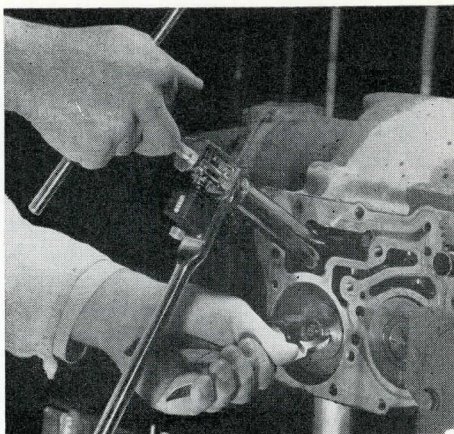
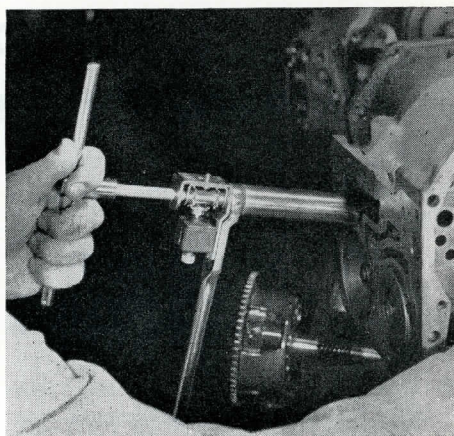

Figure 17
Figure 18
1. Rotate the reverse brake drum to center it in the reverse band. Using the band adjusting tool (ATC-50A with gear shift button in "A" position or AT-50) and a screw driver bit (AT-56), loosen lock nut, and tighten adjusting screw until all end play between linkage and band is removed without compressing band. Fig. 17. The reverse drum must be free to rotate after the end plate has been removed. If reverse drum is not free to rotate after this adjustment has been made, back-off adjusting screw with "T" handle 1/4 turn at a time until the drum is free to rotate. Fig. 18.